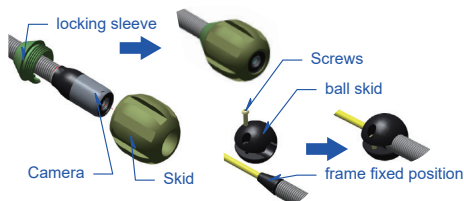

Figure 15. 78 Roller skid
- 1) Install 78 skid and 60 ball skid. (Figure 15)